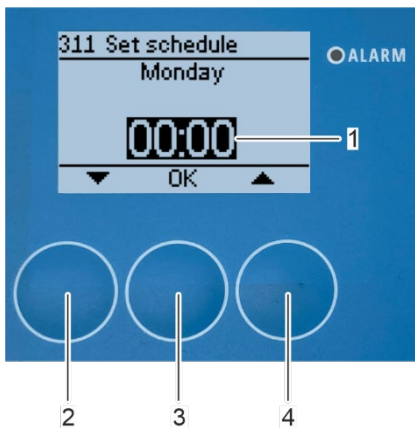

Fig. 155: Select start time for automatic cleaning
⇒ The selection of the start time appears on the display (Fig. 155/1).
6. Select the start time for automatic cleaning with the arrow keys *[up]* (Fig. 155/4) and *[down]* (Fig. 155/2).
7. Confirm the selection with *[OK]* (Fig. 155/3).